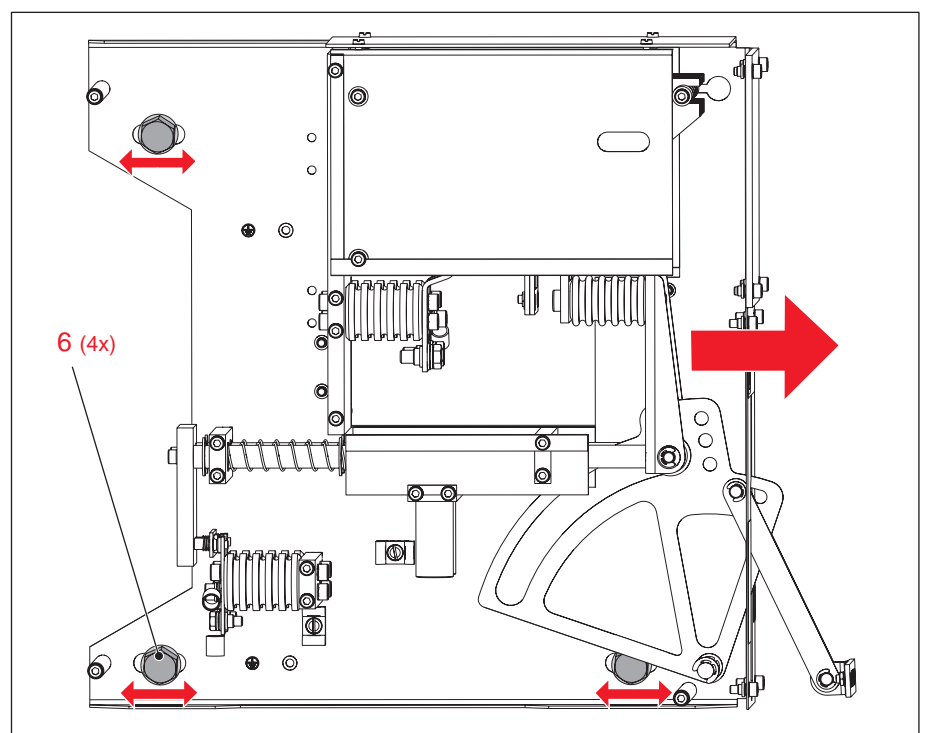

Figure 9: Readjusting the device
1. For readjusting, slightly release the 4 fixing bolts M10 (6) of the device and push the device forward, in the direction of the lid or door respectively, see **Figure 9**.
2. Retighten the 4 fixing bolts M10 (6).